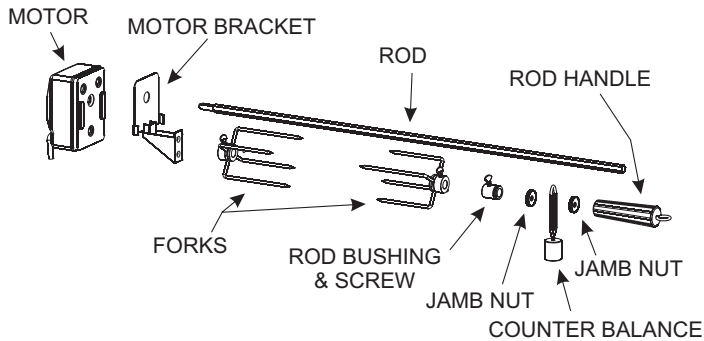

Figure 9
1. Remove all components from the carton. See Figure 9.